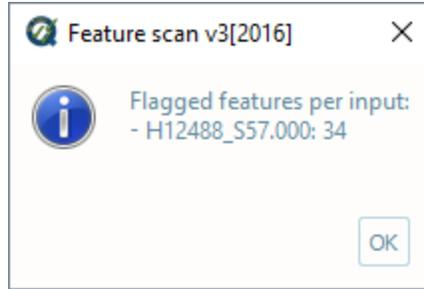

Fig. 2.47: Feature scan's output message.
- After computing, the output window opens automatically, and the results are shown (Fig. 2.47).